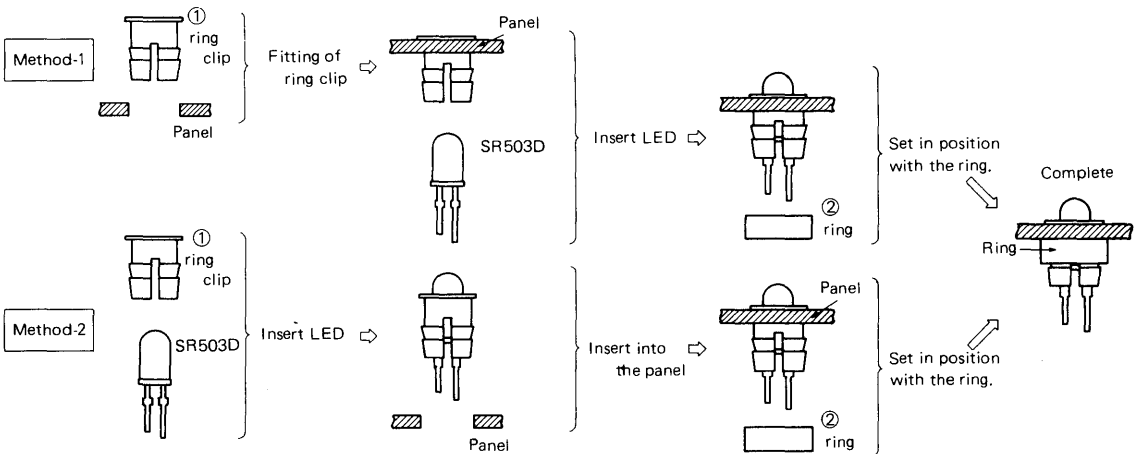

Fig. 2 Method of fitting SR103D type Panel Mounter.
The external view of the panel mounter is shown in Fig. 2 (a), a diagram of SR503D type LED completely mounted with a panel mounter is shown in Fig. 2 (b), and the order of the procedure for mounting is shown in Fig. 2 (c). Compared with the SR101C type panel mounter, the SR503D type is made of harder material and the inserting of the outer ring has a tighter fit. Furthermore, since the maximum diameter (7.0ϕ) of the ring tube ① is larger than the dimension (6.4ϕ) of the part contacting the panel, attention should be paid to the panel hole diameter and to the observance of the exact procedure.
To fit this mounter, first it is necessary to insert the ring clip ① into the panel hole as shown in Fig. 2 (c). For this, the recommended hole diameter on the panel is $6.7\text{ mm}\phi$, and a panel thickness of 0.6 to 3.0 mm is suitable. Since the diameter of the panel hole inevitably becomes large and the excess room between the panel and mounter increases in Method-2, which consists of inserting the ring clip into the panel hole while it contains the LED, it is recommended that Method-1 be employed whenever possible. After the ring clip has been inserted into the panel, the LED is inserted into the ring clip until it is fixed securely against the groove inside the ring clip. Finally, the ring clip and panel are secured together with the ring ②. When doing this, the ring clip should be secured by hand or with a jig while the ring is pushed in.